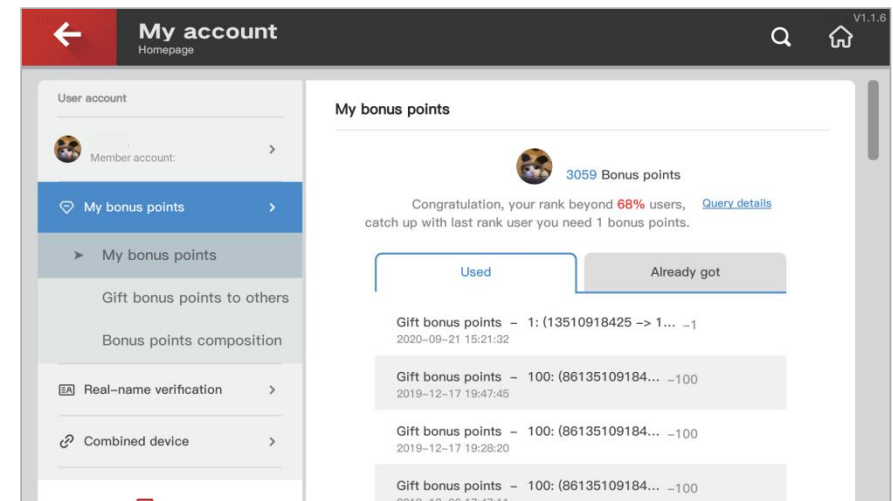

Fig.4.1.7
**My account** : Users can check the bonus points details, combine and unbind device and complete the real-name verification. See Fig. 4.1.7